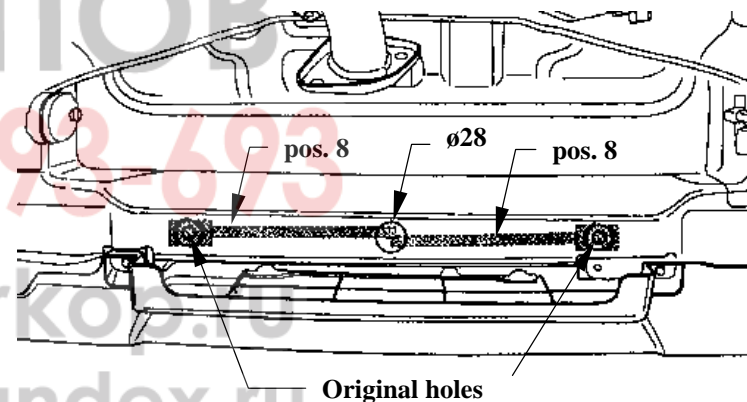

Fig. 4 The jibs placement
4. According to figure 4 drill hole $\varnothing 28\text{mm}$ underneath the car.
5. Through made hole insert nuts on the jibs (pos. 8) in this way so nuts agree with original holes. Fix loosely couplers (pos. 6 and 7) using bolts M10x35mm (pos. 14). Remember to put washer M14 (pos. 17) between couplers and frame of the car.
6. Hole X blind using rubber plug (pos. 23).
7. Fix main bar of the towing hitch (pos. 1) to the frame of the car using bolts M12x1,25x30mm, M12x1,25x40mm and using bolts M12x1,25x50mm through handles (pos. 4 and 5). On the right side on the handle pos. 4 fix original towing eye.
8. Fix tow-ball (pos. 2) and socket plate (pos. 3) by bolts M12x75mm (pos. 9) from equipment.